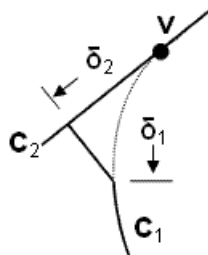

Figure 1. Collapse angle syntax
The collapse angle command is used to eliminate small angles at vertices, where curves meet at a tangential point. The command will split each curve at a specified distance (δ_1 and δ_2) as shown in Figure 1, and create two new vertices along those curves. The remaining small angle will be composited into its neighboring surface using virtual geometry. One of two methods may be used for specifying options for the **collapse angle** command: (1) **Simple**, and (2) **Complete** as described below:
(1) Simple
The **arclength** option will split each curve at a specified distance δ_1 and δ_2 , (See Figure 1) measured from the vertex. You must input at least one **arclength** for each of the options listed below.